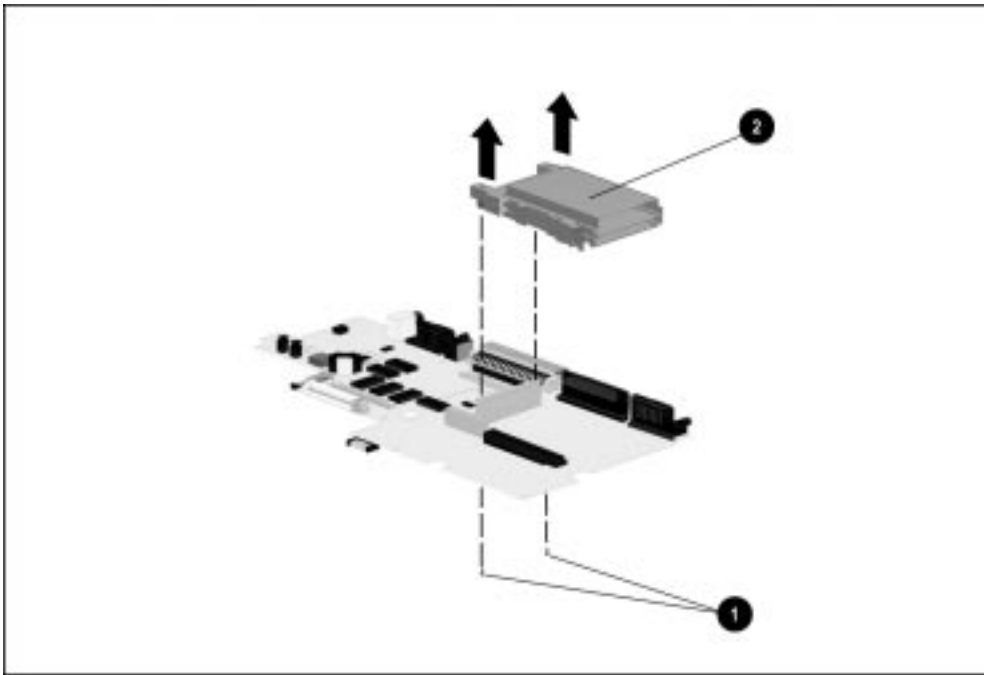

Figure 5-80. Removing the PC Card Assembly
15. Remove the two screws ❶ that secure the PC Card assembly to the system board (Figure 5-80).
16. Lift the left side of the PC Card assembly to disconnect it from the system board ❷.